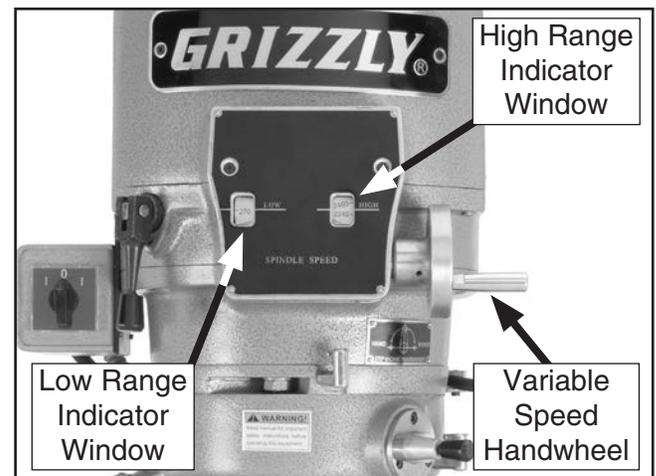

Figure 33. Model G9903 variable speed handwheel and speed indicator windows.
- With the spindle in motion, use the variable speed handwheel to select the correct speed for your workpiece (see **Figure 33**).